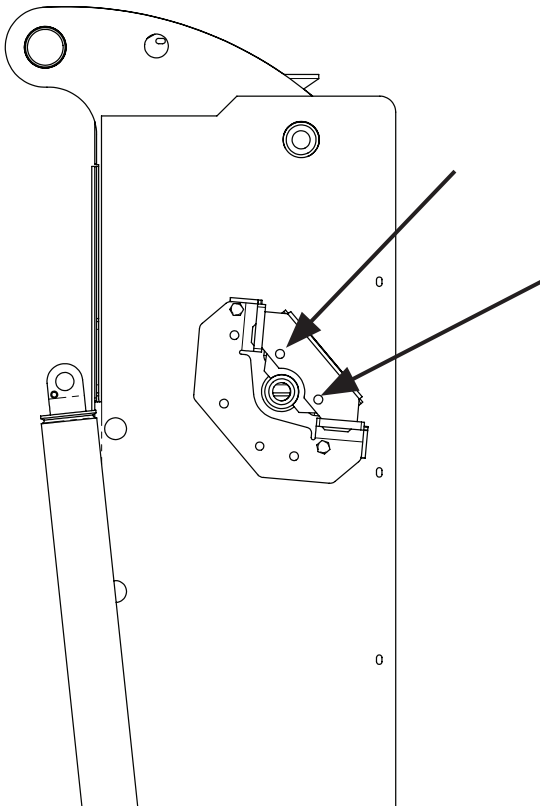

Figure 9
6. Using the bracket, locate and drill the two 27/64" (0.422") diameter tap drill holes on the top of the mounting lug and tap these also to 1/2-13 threads (Figure 9).